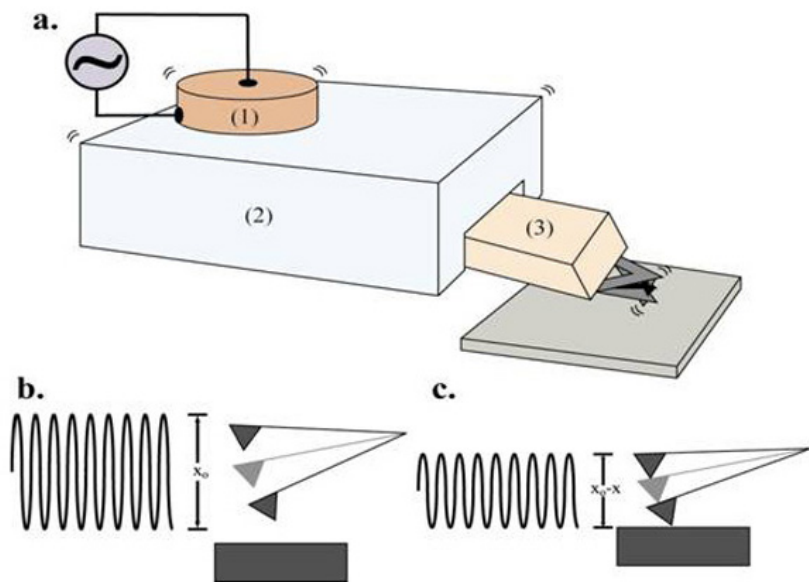

Figure 7 Acoustic AC mode (AAC) (a.) Overview (b.) The free amplitude before contact and (c.) The amount of amplitude dampening from the tip-sample interaction
In Acoustic AC (AAC) Mode AFM, shown schematically in Figure 7 on page 25, a piezoelectric transducer (1) shakes the cantilever holder (2) at or near its resonant frequency, typically 100 to 400 kHz. Interaction between the probe (3) and the sample reduces the oscillation